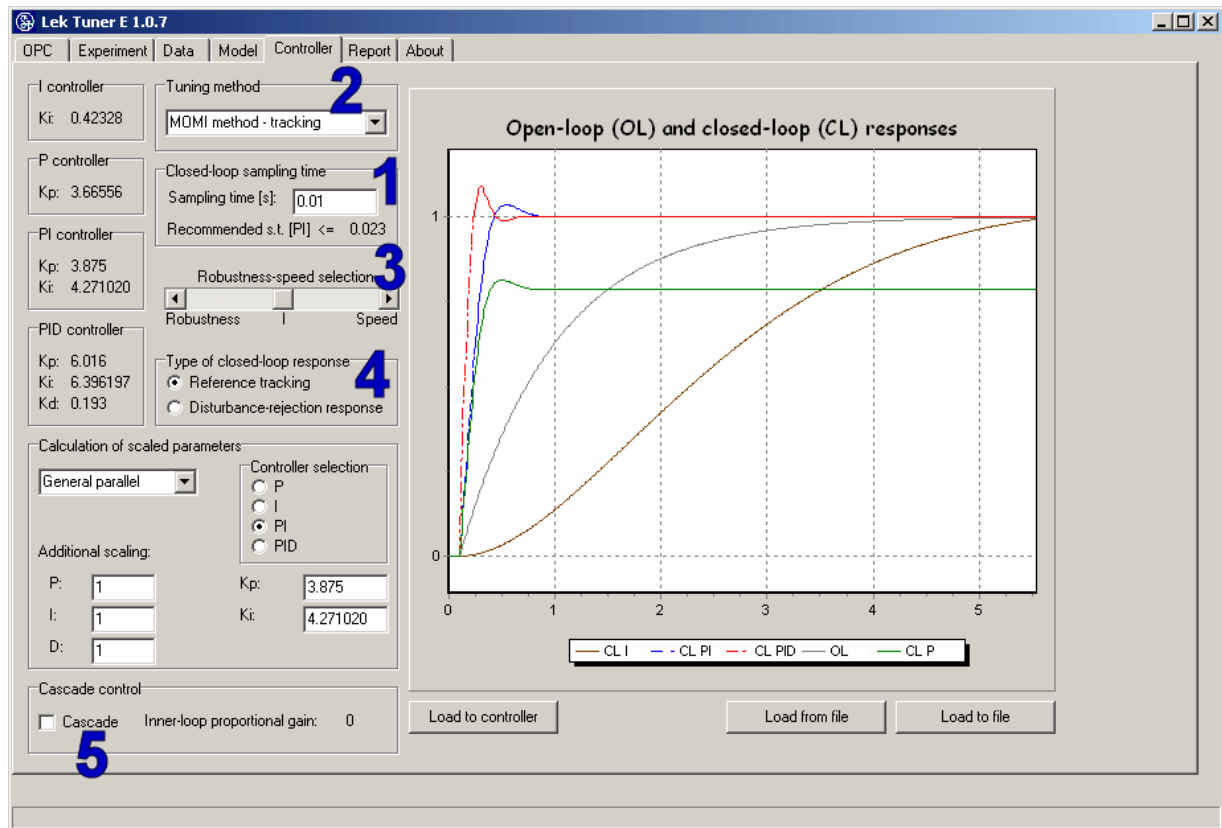

Figure 16. Window »controller«.
In window “Controller” (Figure 16) there are several parameters available. First we have to choose appropriate closed-loop sampling time (1). A tuning method can be selected in a field “Tuning method” (2). Closed-loop responses can be additionally adjusted with slider “Robustness-speed” (3). Closed loop tracking or disturbance-rejection response can be selected as well (4).